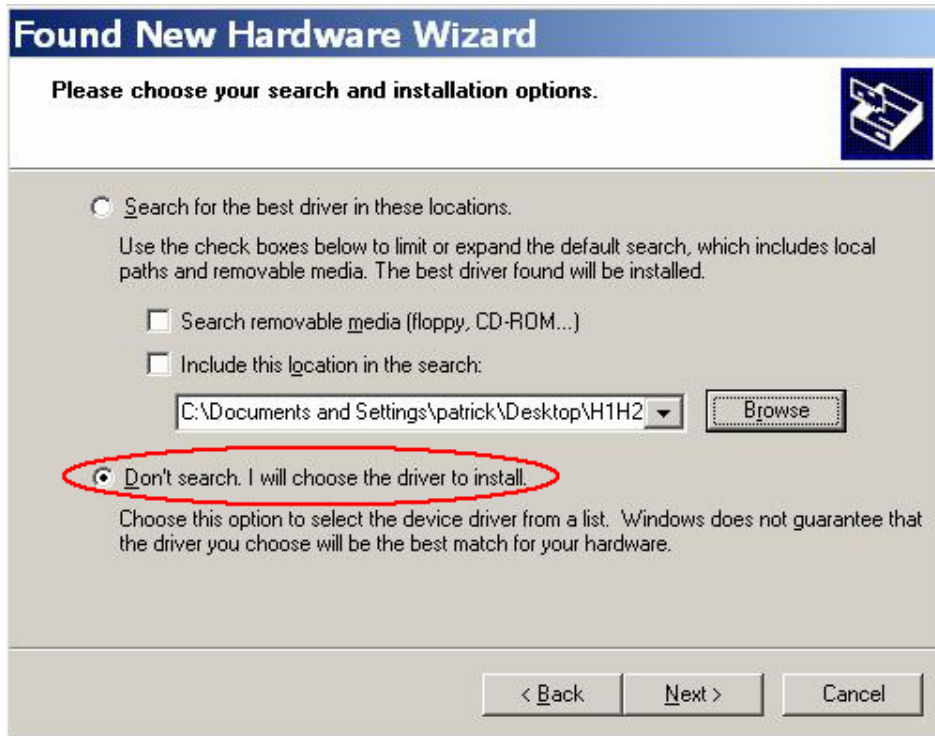

Figure 8-1: Driver Installation of I-7565-H1/H2 (1)
(1) Copy "I-7565-H1H2.inf" file to C:\WINDOWS\inf\ folder.
(2) Copy the file, "usbser.sys", to the path: C:\WINDOWS\system32\drivers\.
(3) Please follow the steps in chapter 3 to install the I-7565-H1/H2 driver by manual again. In the below step like Figure 8-1, please choose "Don't search. I will choose the driver to install" option and then click "Next" button.